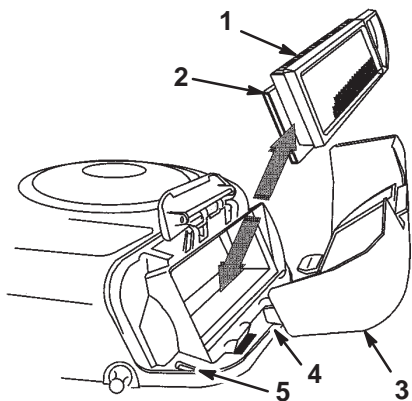

Figure 24
- Carefully slide the paper element and the foam element from the blower housing (Fig. 24).
- Align the tabs on the air cleaner cover with the slots of the blower housing (Fig. 24).